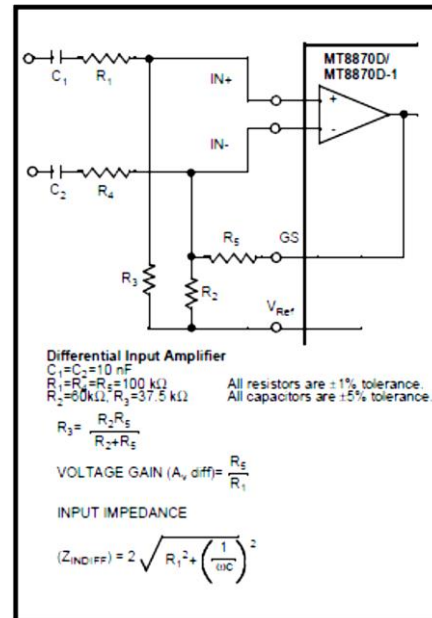

Figure 6 - Differential Input Configuration
The input arrangement of the MT8870D/MT8870D-1 provides a differential-input operational amplifier as well as a bias source (V_{Ref}) which is used to bias the inputs at mid-rail. Provision is made for connection of a feedback resistor to the op-amp output (GS) for adjustment of gain. In a single-ended configuration, the input pins are connected as shown in Figure 10 with the op-amp connected for unity gain and V_{Ref} biasing the input at 1/2V_{DD}. Figure 6 shows the differential configuration, which permits the adjustment